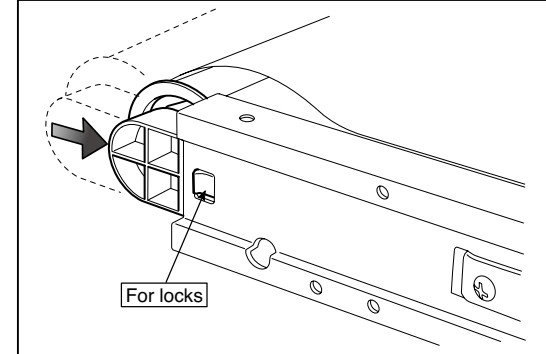

Fig.29
- 4.Push the Tension Roller Base block shown in the figure 29 into the inside and fix the Tension Roller Bases.